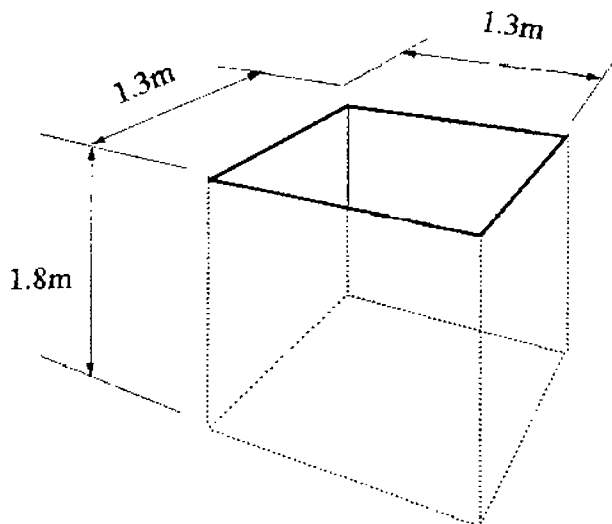

Figure 2. The pit for the aquaprivy tank
- Dig the hole for the aquaprivy tank. Add 300 millimetres to the dimensions of the tank to allow for the walls and working space. The hole should therefore be 1.3 metres square and 1.8 metres deep (see Figure 2).